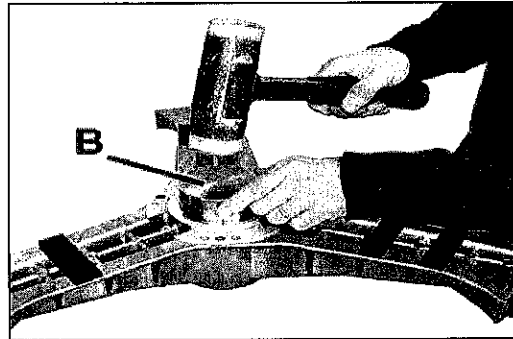

fig.12
- Position the front bearing in its housing (the numbered side of the bearing in the external part). Introduce it up to the end of the box using the **B** tool (fig. 12).